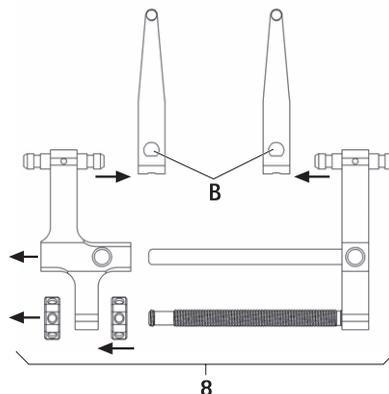

Fig. 4
- ▶ Dismantle distractor 8 with the distraction blades, see Fig. 4: Activate slider B and remove distraction blade FW239R.